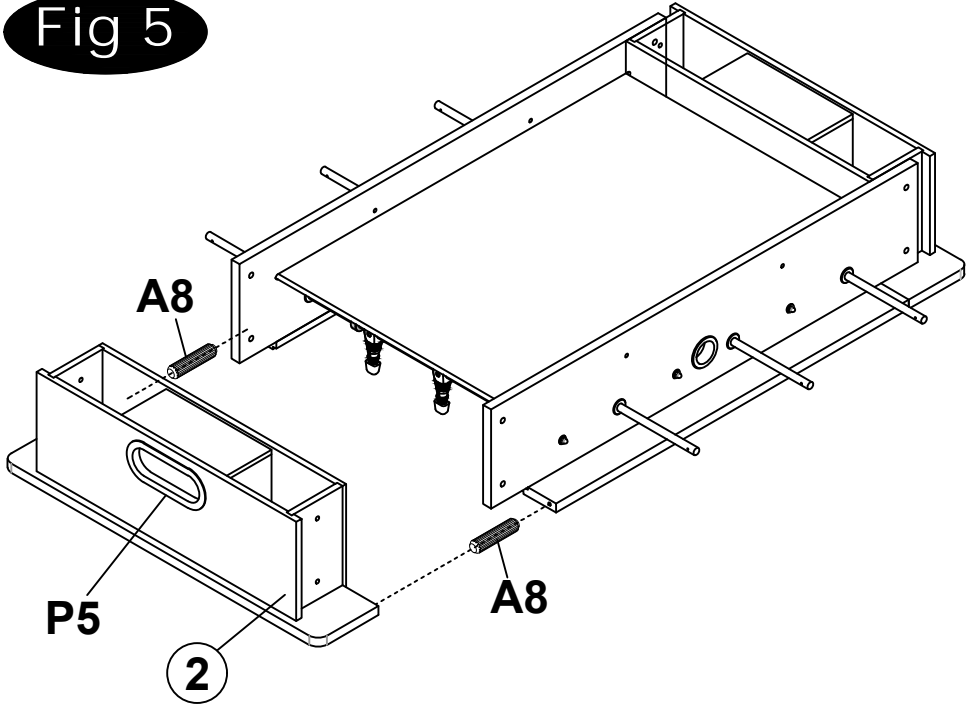

Fig 5
7. The End Panel (#2) is connected to the Side Panels(#1) by Wood Plug, as shown FIG.5.